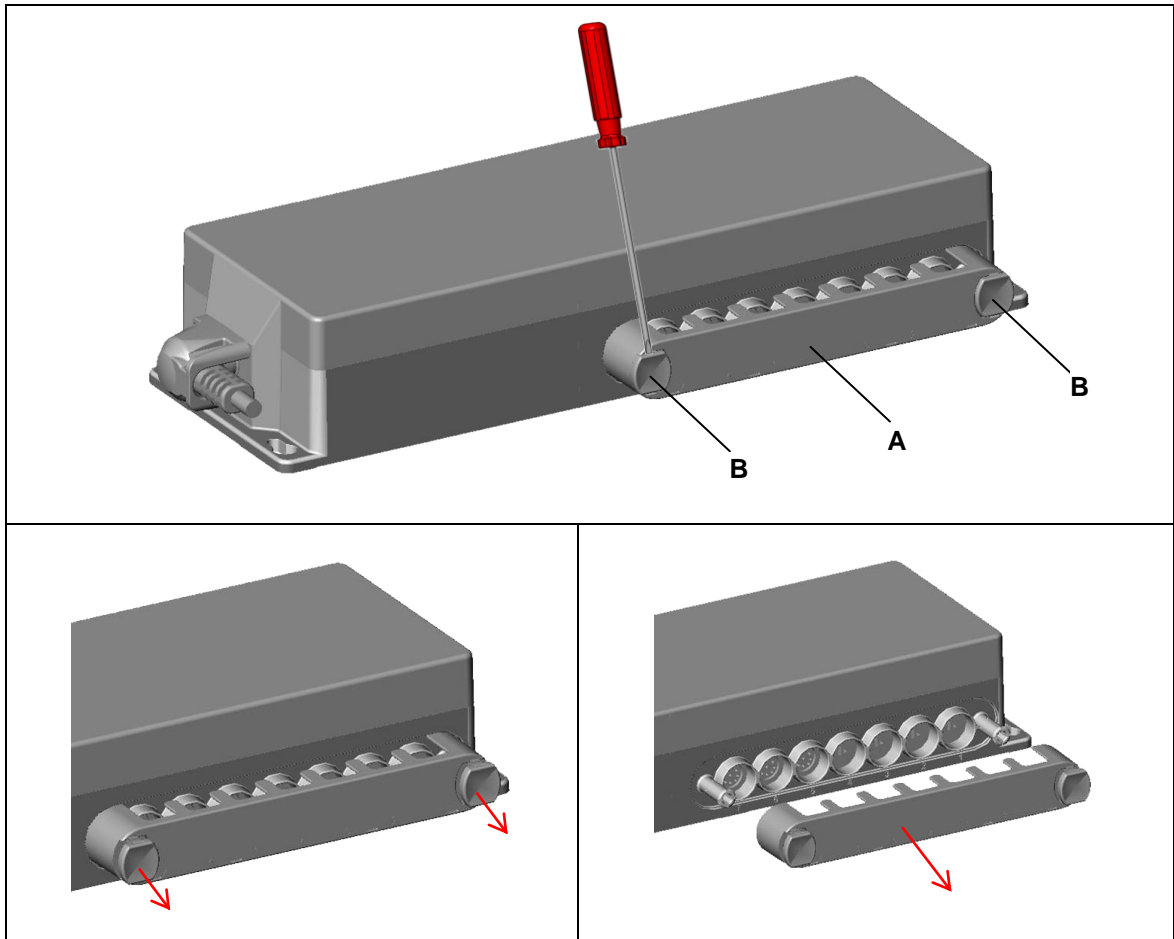

Figure 11 Opening the shield cover on the SG(AG) 300 control unit
Take off the shield cover (refer to page 20, figure 11) and plug the component plug into the proper socket. Make sure that you use the proper connection position as specified in the connection layout illustration (refer to page 10, figure 2).
- 2 Use a suitable tool to loose the both locking clips, refer to figure 11.
- 2 Use a suitable tool to loose the locking clips (refer to page 19, figure 11).
- 2 Open and remove the shield cover (refer to page 19, figure 11).
- 3 Disconnect all connecting cables from the SG(AG) 300 control unit.